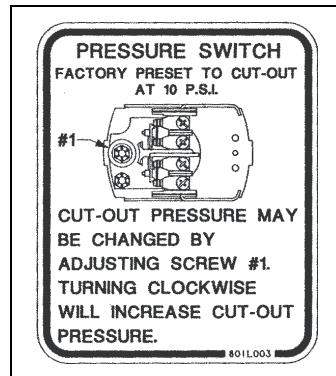

Figure 7A
3. The air pressure limit switch should always be in the "ON" position during routine operation to provide protection to the blower against overload conditions. The air pressure limit is set at the factory to shut down the system at 10 p.s.i. If adjustment is needed, rotate the adjusting screw counterclockwise to lower the pressure limit, or clockwise to increase the pressure limit. A one-half (1/2) turn of the screw will change the pressure limit one (1) p.s.i.
**Note:** If the pressure limit is set below five (5) p.s.i., the switch may not reset and allow the air transfer to run. (See Figure 7A).